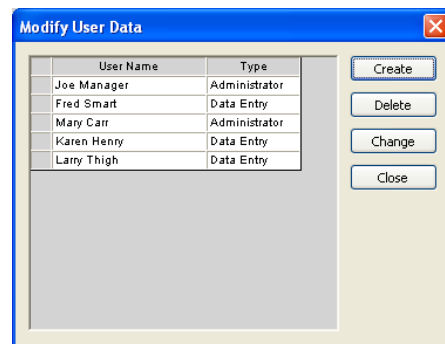

Figure 4
4. Enter additional names and passwords as required. Once the first name is entered, you can now select the user type from the pull down menu. Up to 20 administrators and 20 date entry users can be created (Fig. 4).